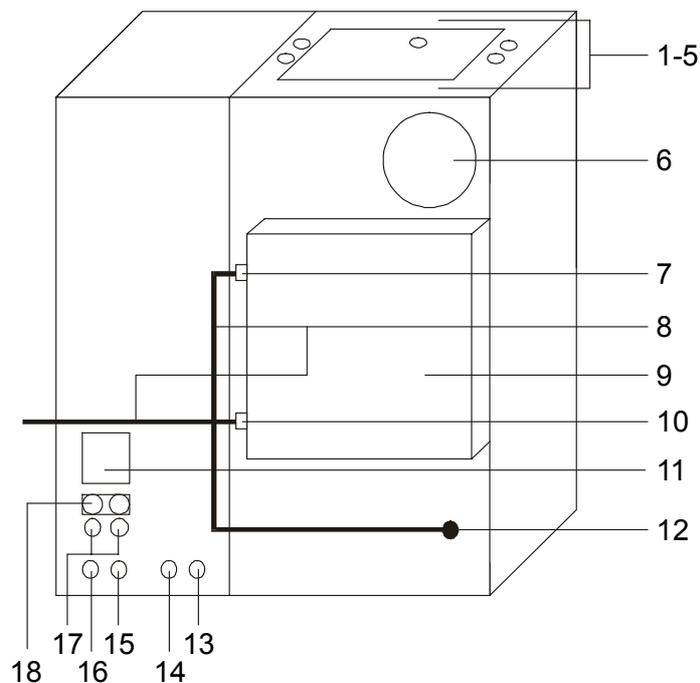

fig. 3
- 14 Measure He flow at the GC out (fig. 3). The He flow should be \approx 90ml/min.
16 Connect the power supply cable of TC/EA (fig. 3) to a 220V main power supply.
17 Switch main power “ON” (fig. 3) and make sure that the fan (fig. 3) is operating.
4 Connect the GC out (fig. 3) to the ConFlo II/III (fig. G) system and make sure that ConFlo II/III is connected via fused silica capillary and needle valve to your IRMS.